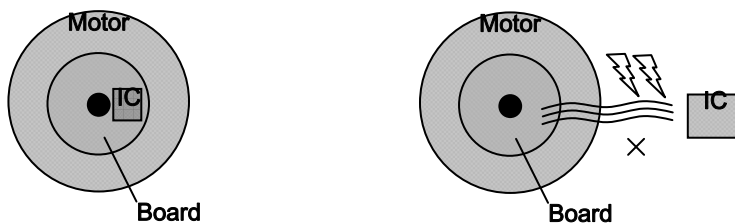

Fig.4
- 1) Generally, three-phase sensorless driver is rotated motor by detecting the induced electromotive voltage. Line noise, line resistance is influenced for detecting the induced electromotive voltage. From motor to IC line should be shorted, its suggest that location of IC is on the board of Motor in below Fig.4.